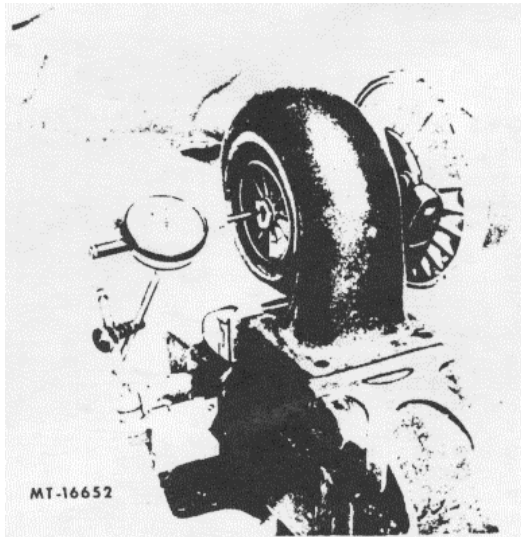

Fig. 8. Checking Axial End Play
1. Clamp turbocharger in a vise and position a dial indicator with a magnetic base on the frame of the vise (Fig. 8). (Any type base may be used as long as a similar position can be obtained.) Place the foot of the indicator on the turbine end of the shaft.